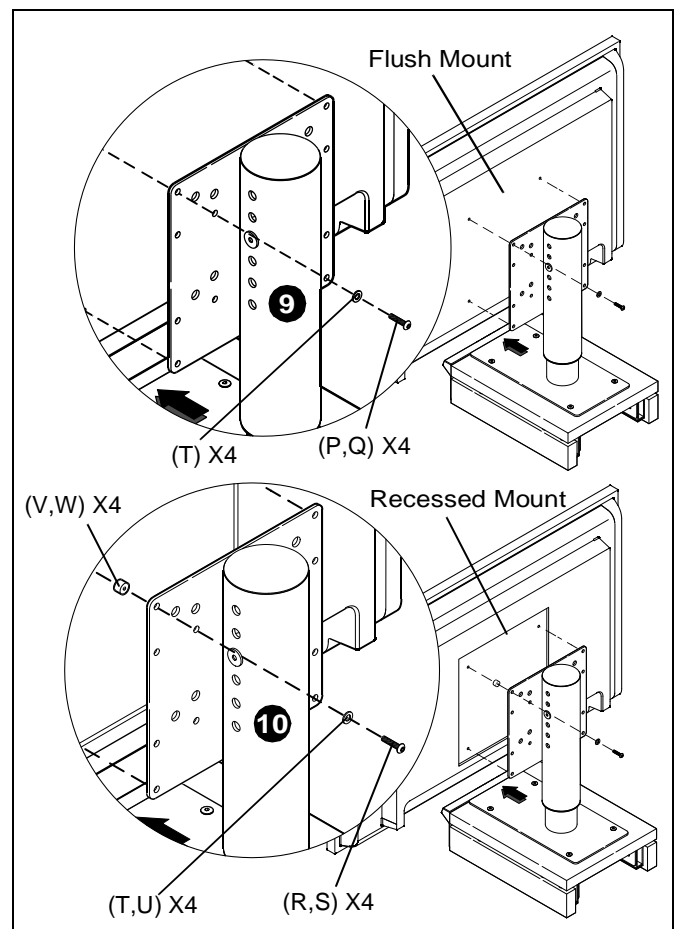

Figure 9
- Secure flush mount display to face plate using four washers (t) and four slotted pan head screws (p,q). (See Figure 9)
- Secure recessed mount display to face plate using four spacers (v,w), four washers (t,u), and four slotted pan head screws (r,s). (See Figure 9)